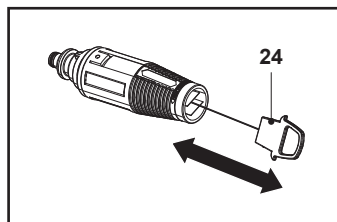

Fig. 14
2. Remove any dirt deposits from the nozzle hole using a needle (24) (Fig. 14).